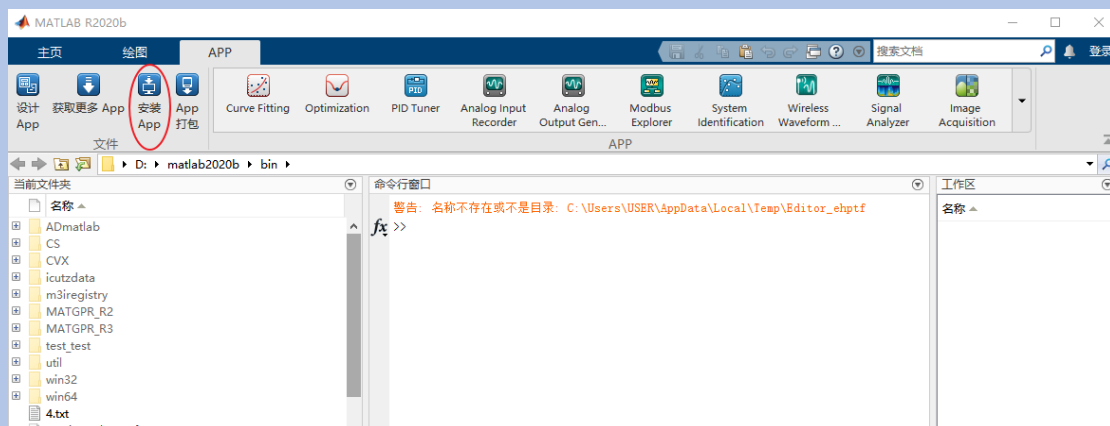

Figure 2.1 Installing GPRlab in MATLAB
(1) First, make sure that your computer has MATLAB R2020b or later versions installed.
(2) As shown in Figure 2.1, open MATLAB, enter the APP module, click Install App, and select the GPRlab.mlappinstall we provide.